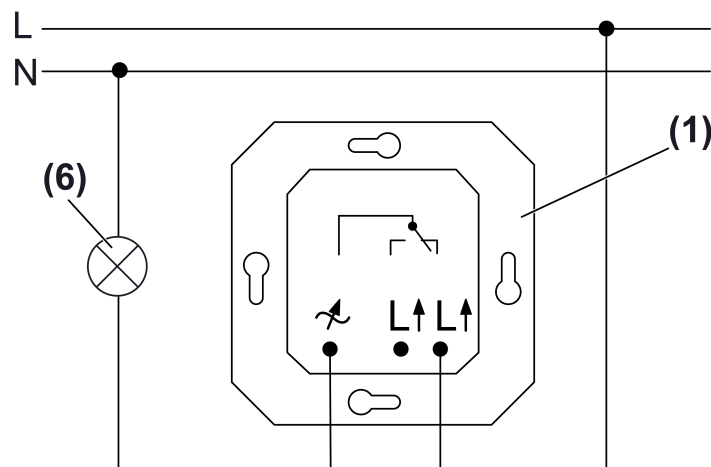

Figure 2: Connection diagram
- Connect control unit (1) and lamp (6) according to connection diagram (Figure 2).